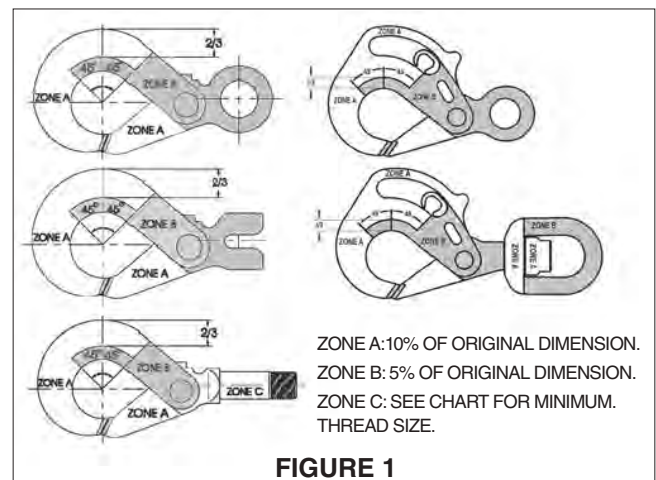

FIGURE 1
- Always make sure hook supports the load. The latch must never support the load (See Figures 1 & 2).
- Never use a hook that is worn beyond the limits shown in Figure 1.
- Remove from service any hook with a crack, nick, or gouge. Hooks with a nick, or gouge shall be repaired by grinding lengthwise, following the contour of the hook, provided that the reduced dimension is within the limits shown in Figure 1. Contact Crosby Engineering to evaluate any crack.